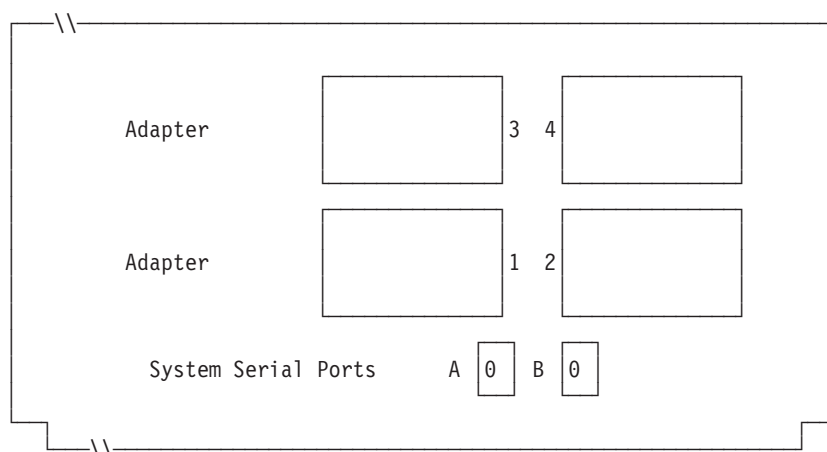

Figure 87. Right side of rear of 4693-5x1 or 4693-7x1 controller/terminal
6. If terminal applications use the asynchronous port, write the port number on Figure 87. Use a 0 if the terminal does not use a port. Valid port numbers are 1, 2, 3, 4.